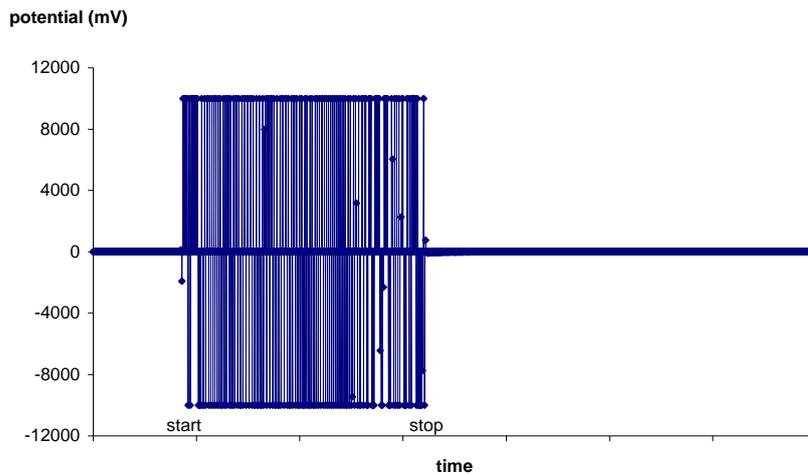

Figure 2: BUZZ function of the ELC-03XS (CC Mode)
- CC:** The BUZZ circuit is activated (duration set by **48**). To facilitate the penetration of the cell membrane the BUZZ circuit is provided which is based on oscillations caused by overcompensating the capacitance compensation system. The overcompensation of capacitance compensation yields to very powerful high-frequency (approx. 2 kHz) oscillations (see Figure 2).
- +Imax or -Imax** can also be used to clean the tip of the electrode by passing large amounts of positive or negative current. The maximum current is dependent on the setting of the current range, see also (42).
(3) REMOTE connector